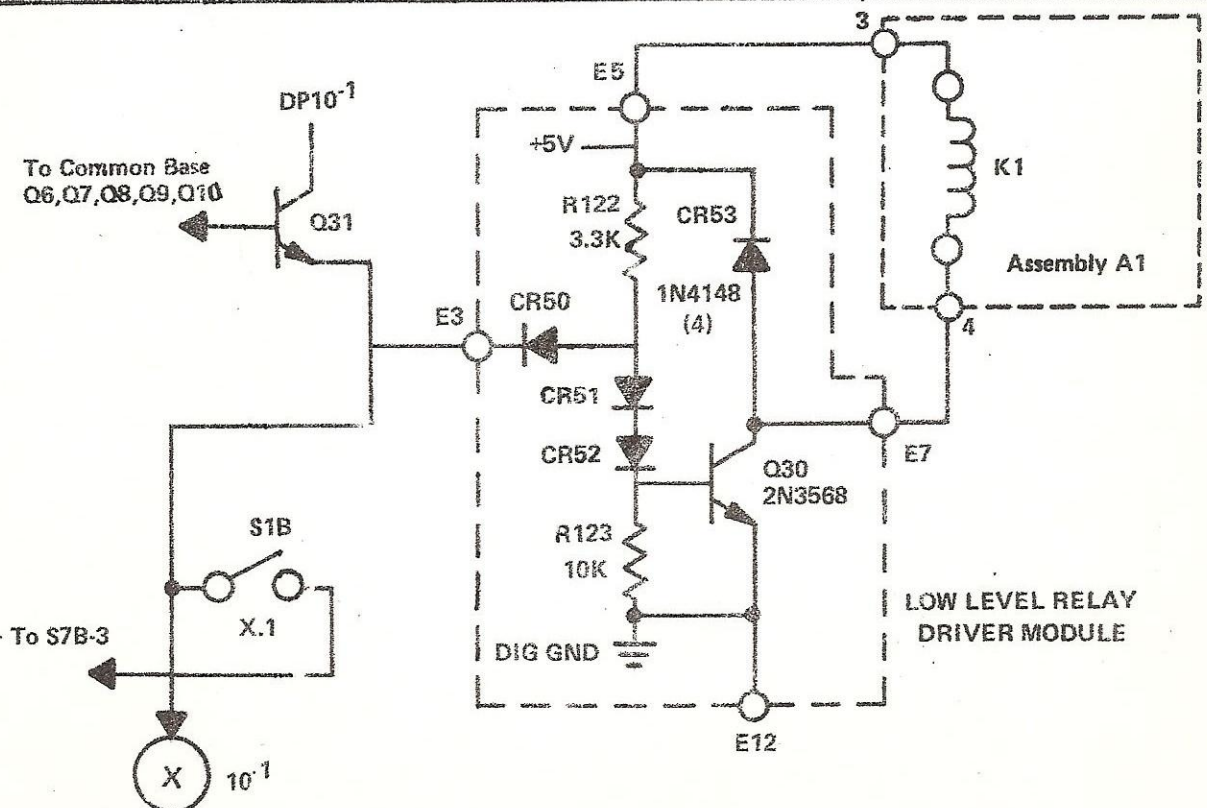

Fig. 6-4A Ranging Logic Modification for A1 Option
a. Display (See Ranging Logic Modification, Figure 6-4A)